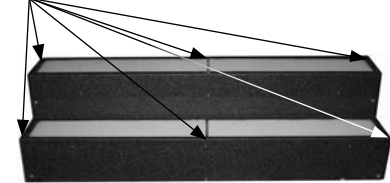

Figure 1
- Remove six screws from the each top, remove tops. (Fig. 1)